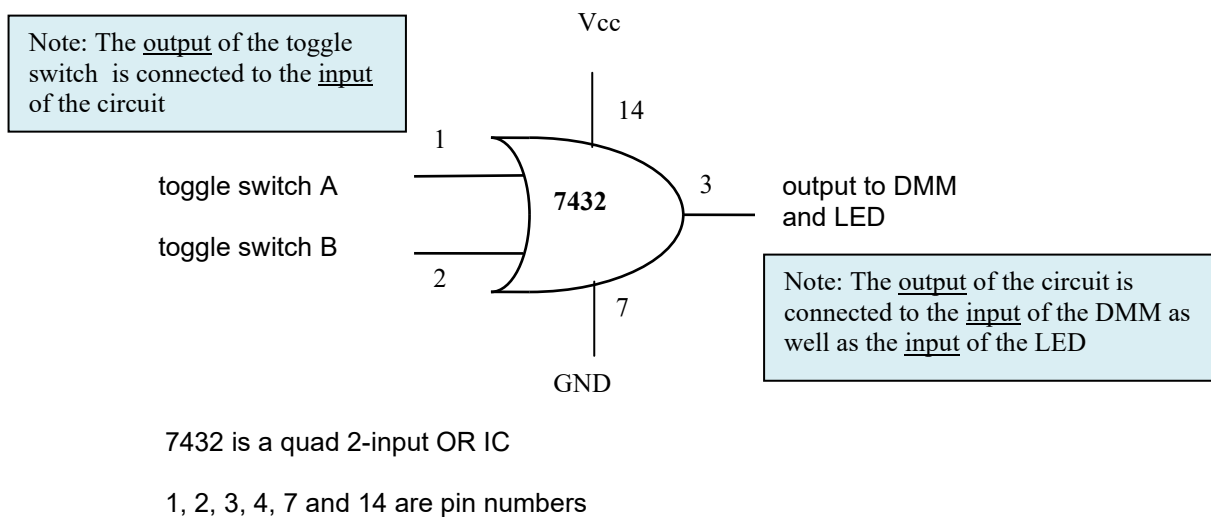

Figure 1: Logic circuit connection diagram (OR gate)
- 4.4 For preparation of the lab, you are expected to use a logic circuit connection diagram, such as the one shown in Figure 1, to help you in setting up the experiment. This diagram is drawn with reference to the device's pinout configuration (see Appendix) stipulated on its datasheet. The actual pin numbers may vary depending on which one of the several logic gates on the device that you choose to use.